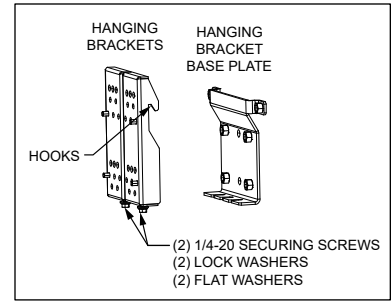
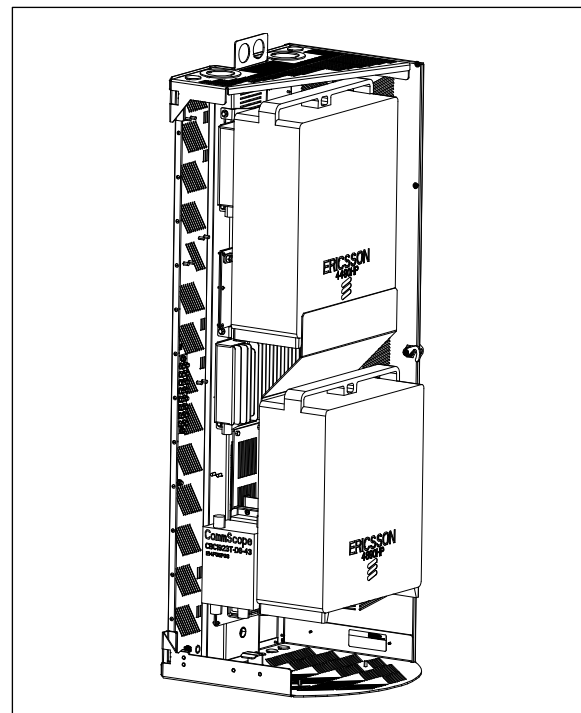

Figure 8
Figure 18 Complete Installation
The radio is mounted on a set of hanging brackets. The hooks on the hanging brackets rest on the top of the base plate. When the brackets are in their hanging position, tighten the 1/4-20 securing screws underneath the brackets to keep them in place. The construction of the hanging bracket is shown in Figure 8.
6. Hang the radio/diplexer assembly onto the hanging bracket base plate (Figure 18). Secure the hanging brackets from underneath using the 1/4-20 securing screws. See Figure 8 for bracket construction.